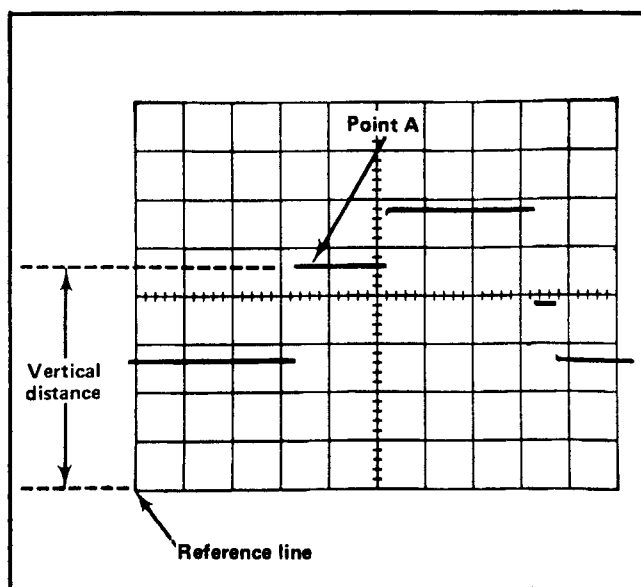

Fig. 2-8. Measuring instantaneous DC voltage with respect to a reference voltage.
9. Measure the distance in divisions between the reference line and the point on the waveform at which the DC level is to be measured. For example, in Fig. 2-8 the measurement is made between the reference line and point A.
EXAMPLE. Assume that the vertical distance measured is 4.6 divisions (see Fig. 2-8) and the waveform is above the reference line with a VOLTS/DIV switch setting of 2 V.